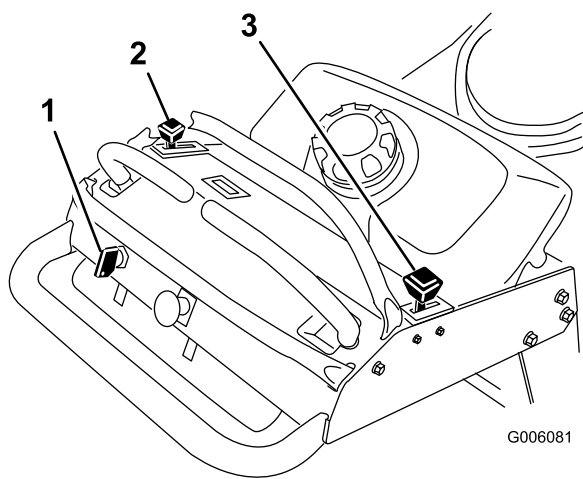

Figure 8
4. Move the throttle control to fast and move the choke lever to the on position before starting a cold engine (Figure 8).
2. Move the throttle lever to slow (Figure 8).